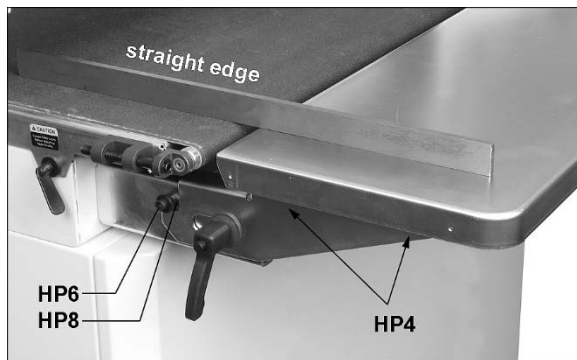

Figure 6-4: infeed table alignment
6. Place a straight edge at one side of conveyor table under drum and extending out over infeed table. See Figure 6-4. You may wish to lower drum until it contacts the straight edge to hold it in place.